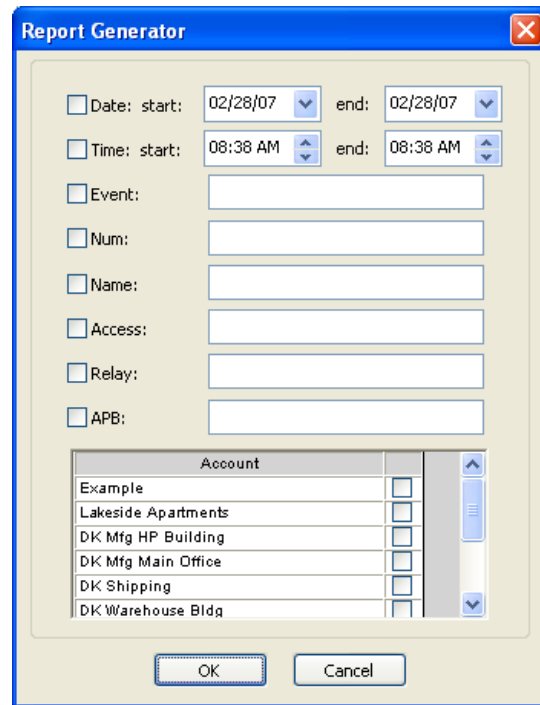

Figure 63
1. After the transaction file is opened and displayed on your screen, click the REPORT button in the tool bar. The report generator window will appear in the transaction screen (Fig 63).